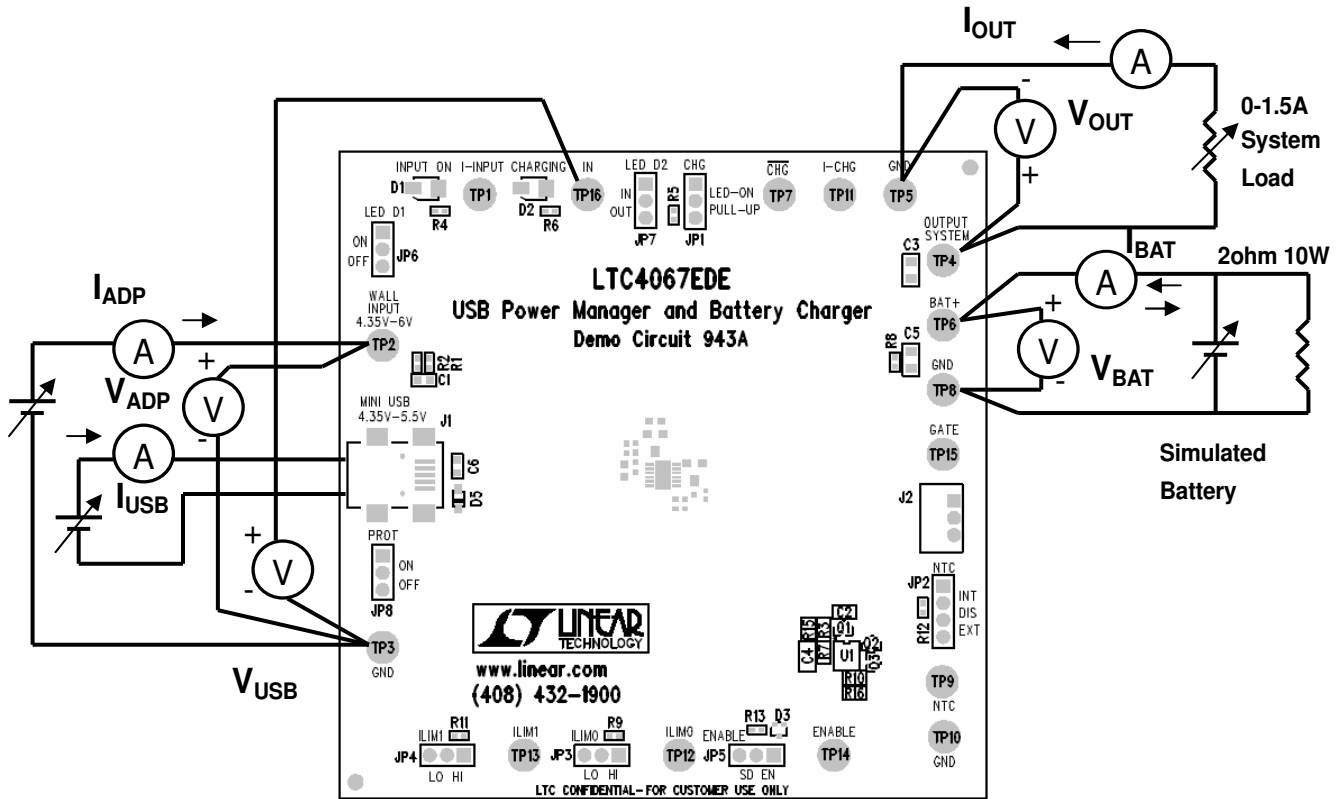

Figure 1. Proper Measurement Equipment Setup
Demonstration circuit 943 is easy to set up to evaluate the performance of the LTC4067. Refer to Figure 1 for proper measurement equipment setup and follow the procedure below:
1. With power off, connect the input power supply, meters and output load as shown in Figure 1. For the USB input, use an adjustable 0-5V 0.5A power supply and a cable with a USB Mini-B connector that plugs into J1. For the wall adapter input, use a 0-10V 2A adjustable power supply. For simulating the battery, use a 0-5V adjustable power supply that can deliver at least 3A, in parallel with a 2Ω 10W power resistor. Attach a 0-1.5A adjustable load to the System Output.